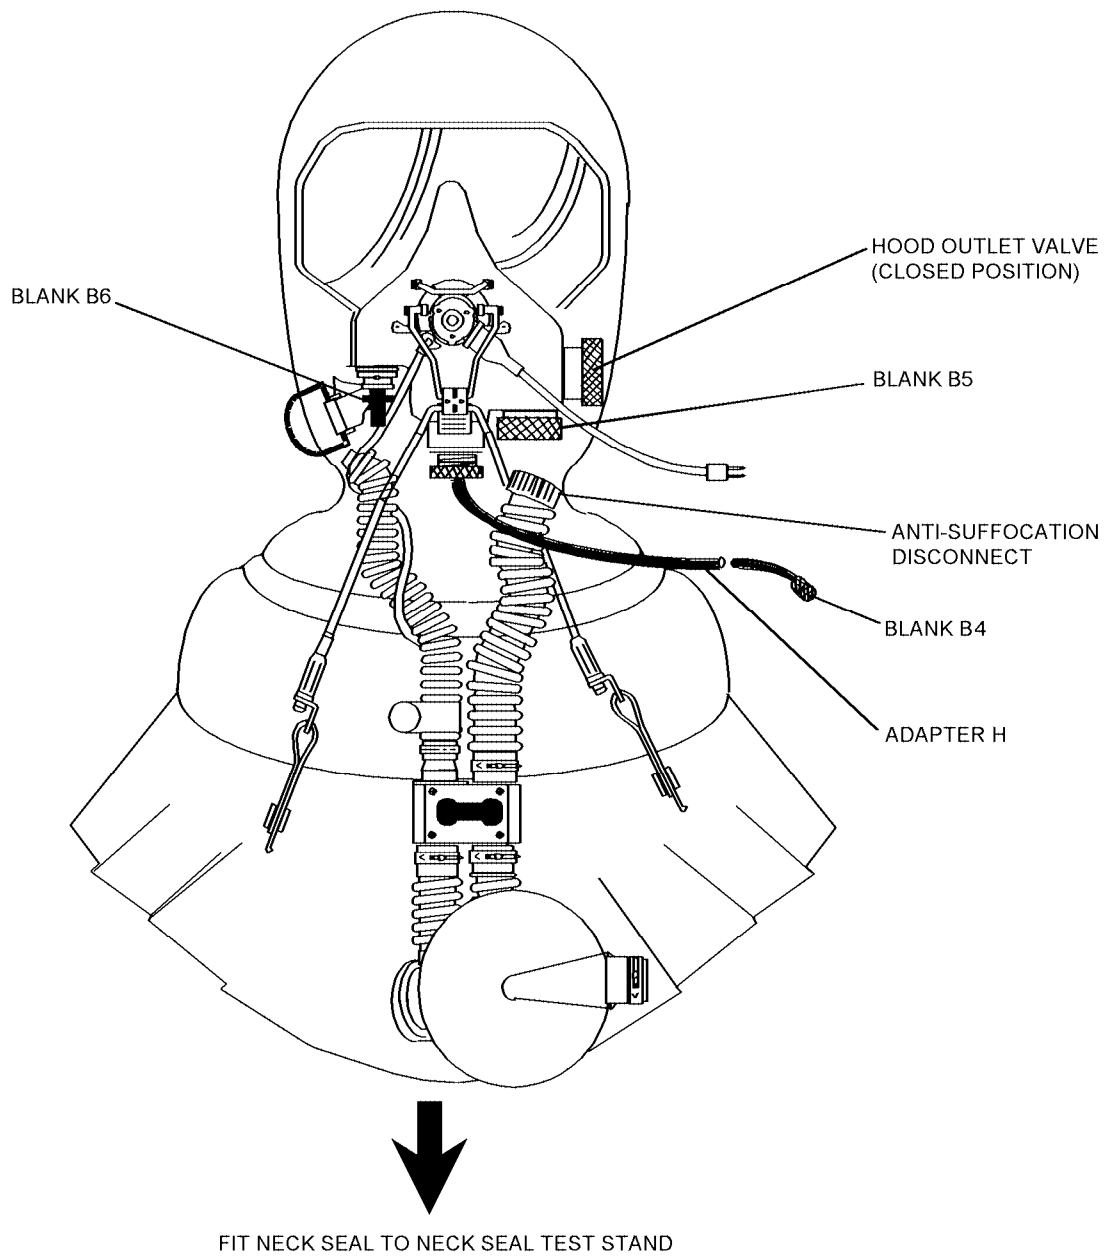

Figure 4-101. (V)2 thru (V)4 Variants - Hood Assembly - Overall Leakage Test
1. Detach hood and mask inlet hoses from mask (figure 4-101).